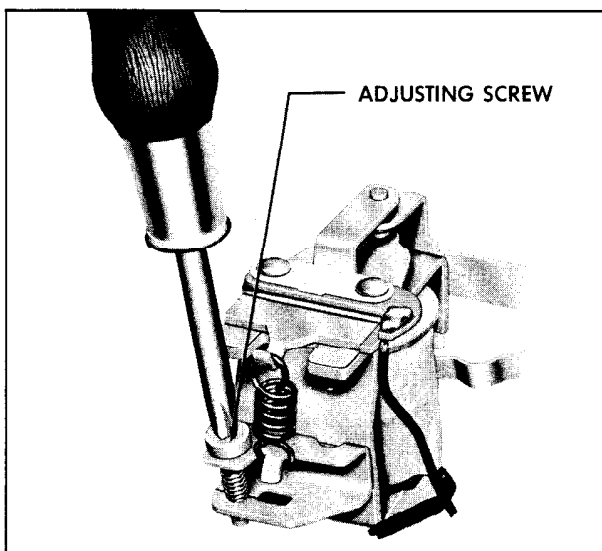

Fig. 13-20 Adjusting Upper Contact
9. To increase the voltage of the upper contact, turn the adjusting screw clockwise. (Fig. 13-20) To decrease, turn it counterclockwise. Final setting must always be made while increasing spring tension. Spring support must be in contact with adjusting screw head.